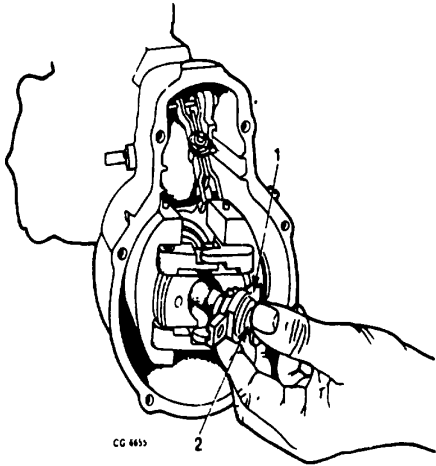

Figure 11. Removing Adjusting Pin Guide Bushing
11. Raise tabs on lock plates, remove two cap screws and take out adjusting pin guide bushing (Figure 11).